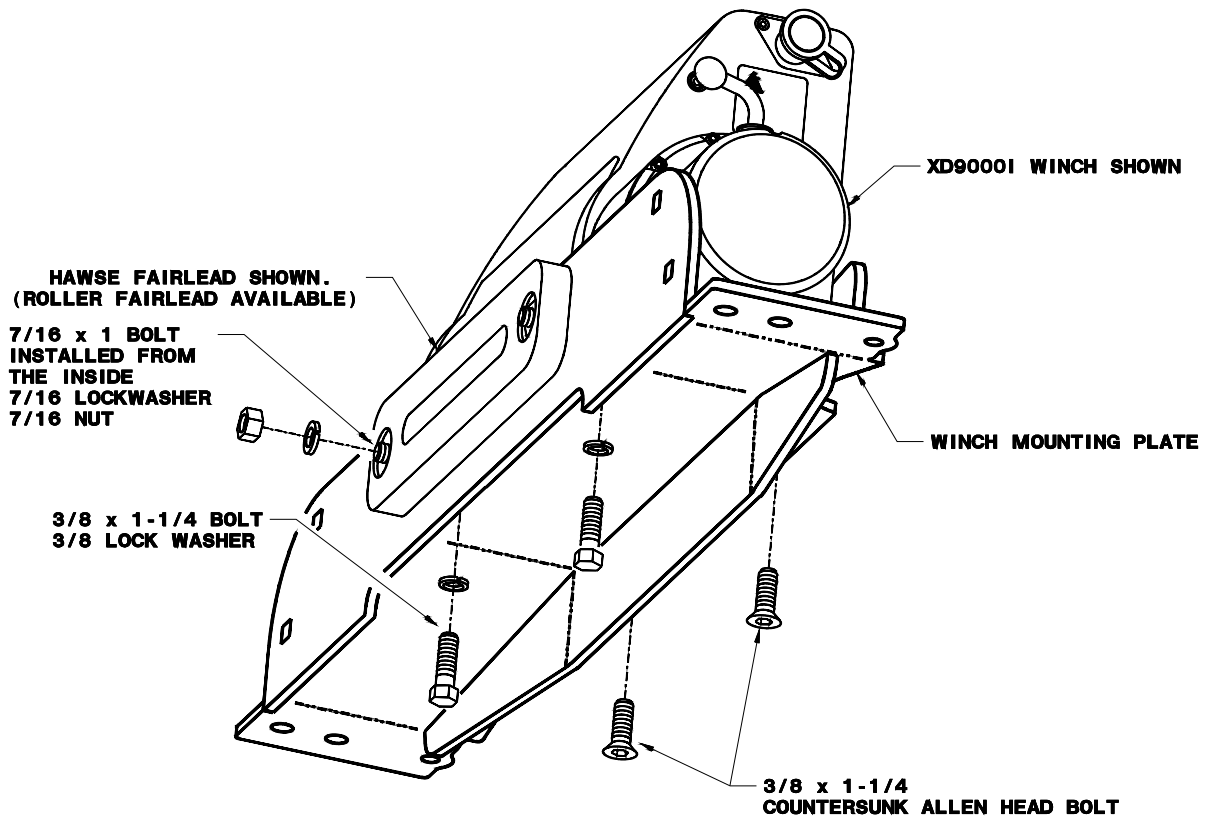

FIGURE 1
1. The winch, fairlead, and mount plate must be subassembled together before assembly to vehicle begins. **(Figure 1)**. First, install fairlead onto plate with the bolts inside out, that is, with the bolt heads near the winch and the lockwashers and nuts against the fairlead. Next, place square nuts into pockets in mounting feet of winch and install the winch onto the plate. At the rear winch mounting holes, use the countersunk allen head bolts. At front holes, use hex bolts with lockwashers. Tighten securely.